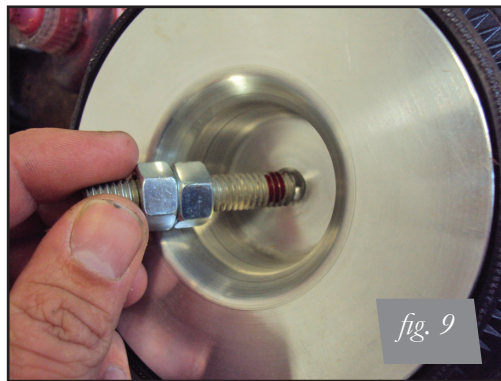

fig. 9
8. Two lengths of threaded studs are included with the kit (C or D, Fig. 1). The shorter stud is for vehicles that retain the coil spring perch bump. The longer threaded stud is for vehicles without the spring perch bump. Apply Loctite to the threads of the upper end cap and thread in the appropriate stud. Take the supplied nuts and thread both onto one stud (Fig. 9, 10). Using the nuts jammed together, tighten the stud into the end cap until it bottoms (Fig. 11). Remove both nuts (Fig. 12).